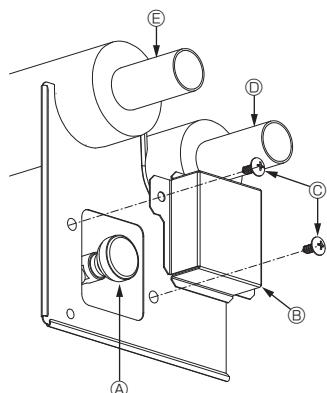

Fig. 6-1
6.2.2. The air vent valve of indoor unit (Fig. 6-1)
- ① Remove the air purge valve cover.
- ② Turn the knob on the air purge valve to release the air.